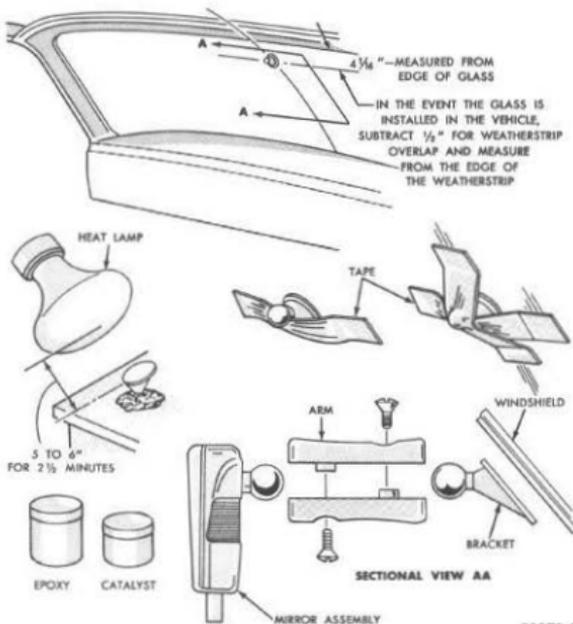

FIG. 107—Bonded Rear View Mirror Installation
1. Locate and mark with a wax pencil the bracket location on the outside surface of the windshield (Fig. 107).
3. To mix the resin pour the entire contents of the small catalyst bottle into the large epoxy bottle (Fig. 107).
6. Place the mounting bracket surface upward in a vise or in a small mound of permagum or any suitable holding material that will support the mounting bracket (Fig. 107). Hold a standard 250 watt infrared lamp about 5 to 6 inches from the mounting surface of the bracket for 2½ minutes.
inches long located just under the knob of the bracket (Fig. 107). Apply another piece of tape in the vertical direction (Fig. 107) to firmly hold the mounting bracket in place on the windshield.
10. After the bracket has had time to adhere to the glass, remove the tape and install the mirror and arm to the bracket (Fig. 107).